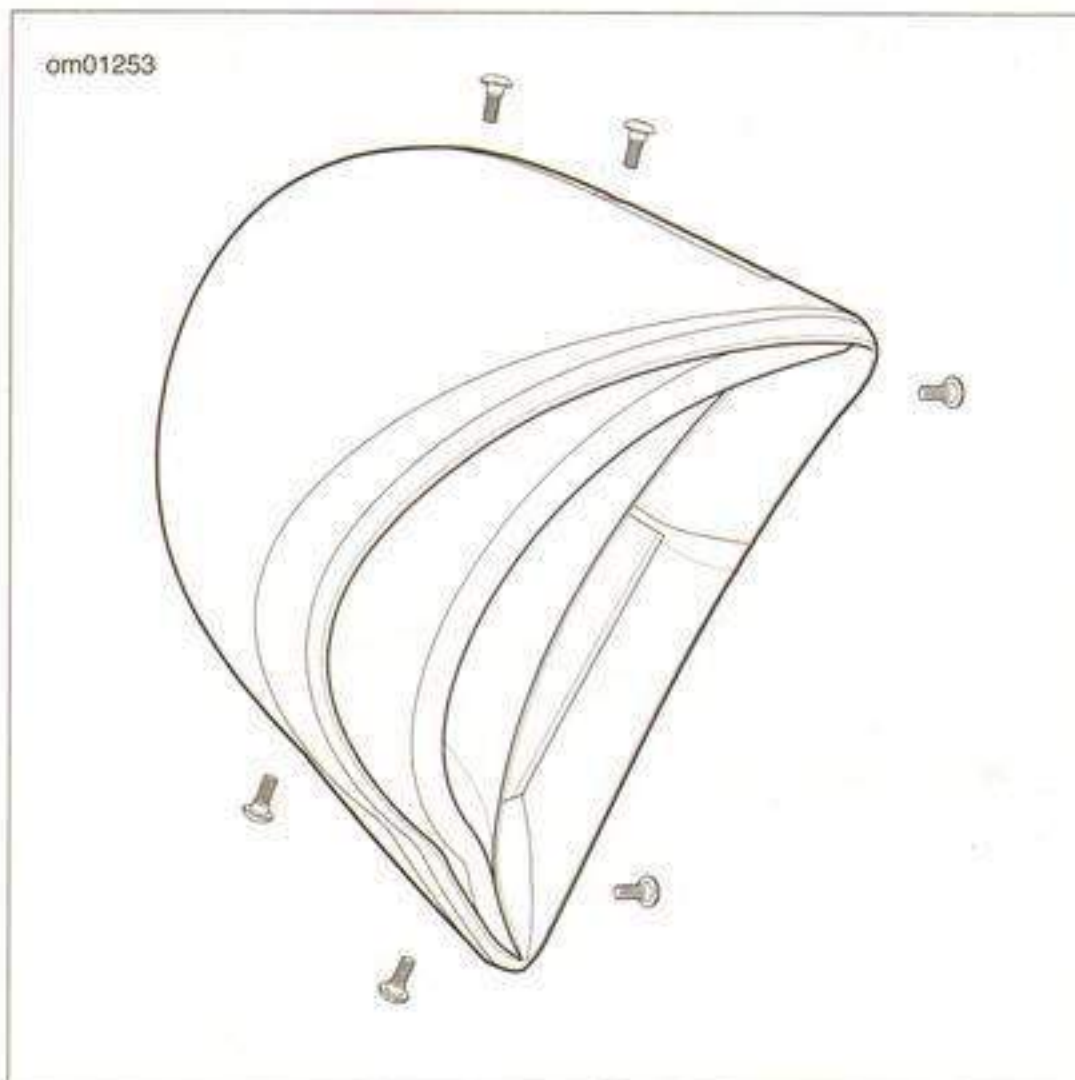

Figure 3-7. Outer Shroud Fasteners
5. See Figure 3-7. Remove outer shroud fasteners and outer shrouds.